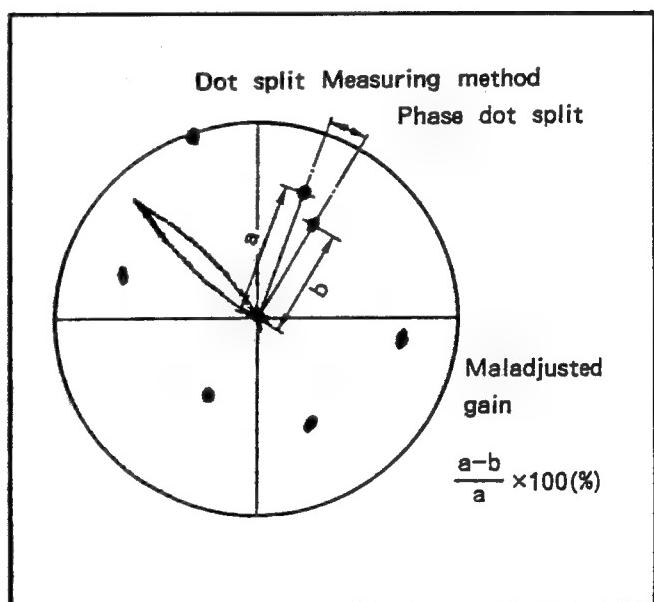

Fig. II-86
* Note: Measure dot split according to Fig. II-86.